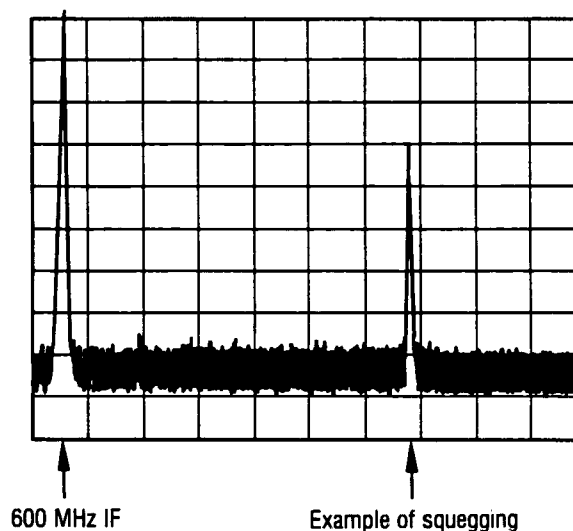

Figure 5-44. Unlevelled Squegging Displayed on Spectrum Analyzer
74. Using the [\blacktriangle] key on both the DUT and the LO, step through Band 2, observing the Spectrum Analyzer display at each step. There may be responses due to mixing products. These will appear as low level signals. A squegging response will appear as a higher amplitude signal as shown in Figure 5-44. If squegging occurs at DUT frequencies below 10 GHz, adjust A24R3 (X2A) slightly CCW to eliminate squegging. If squegging occurs at frequencies above 10 GHz, adjust A24R4 (X2B) to eliminate the squegging. Note, if the control is adjusted and there is no effect on the response, the response is probably a mixing product.